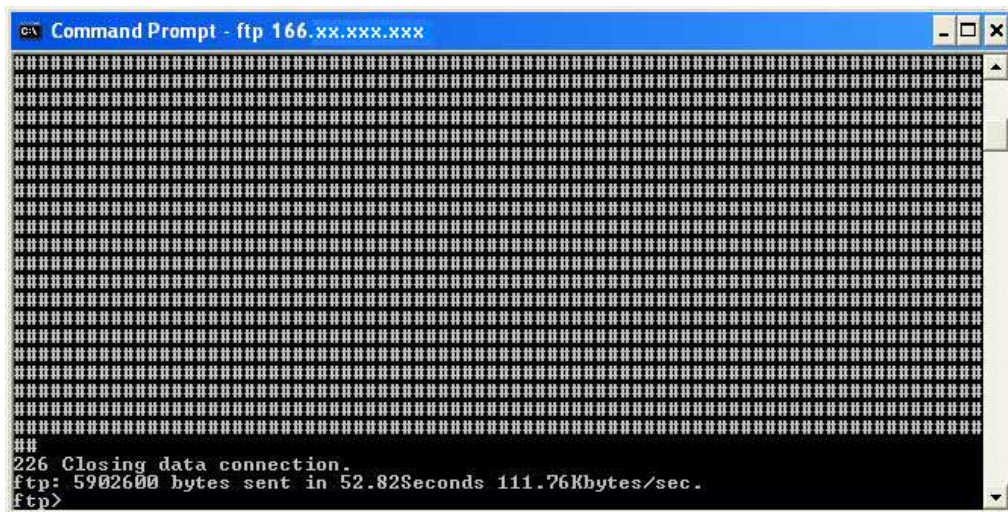

Figure 81. Closing Message
5. When the upgrade finishes, the closing message displays (see Figure 81).